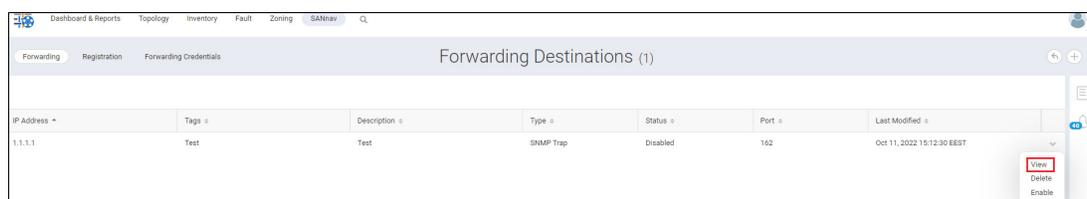

Figure 5-162 Editing forwarding destinations
2. Select **View** from the action menu of an existing forwarding destination (Figure 5-162).